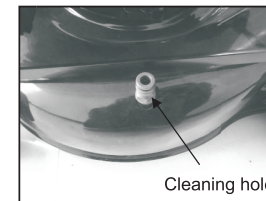

Fig.15
1. Using a water hose, insert the hose connector into the cleaning hole-connector on the deck; ensure they are firmly connected (Fig.15);